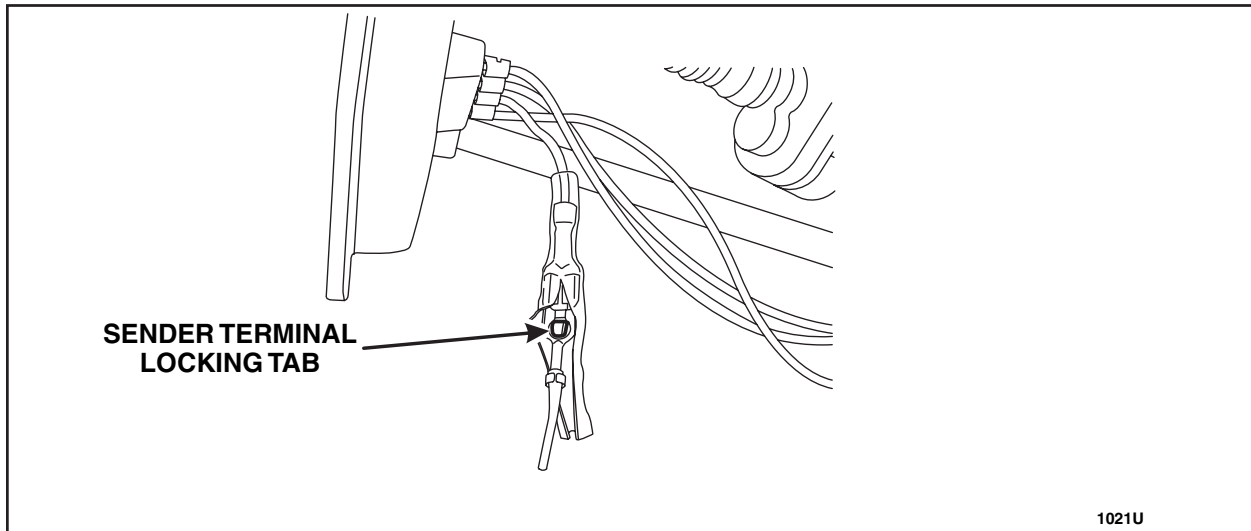

FIGURE 12
29. Disengage the fuel level sender terminal locking tab from the yellow wire and separate the connection. See Figure 12.